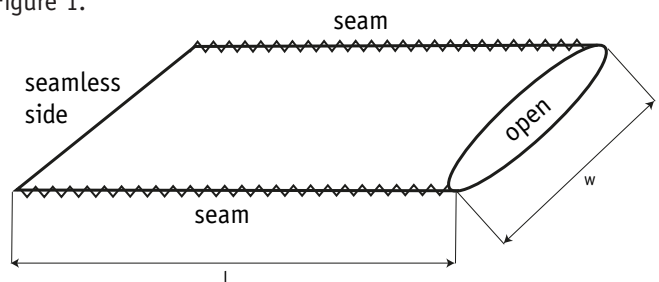

Fig. 1 Empty GSC Secutex® Soft Rock – shape as delivered to site
1.2 Geotextile containers Secutex® Soft Rock are made of folded needle-punched nonwoven geotextiles and connected with a sewing technique (single seam: overlock stitch or double seam: double chain stitch + overlock stitch) on the two long sides. For filling with sand on the construction-site in dry conditions, one short side is left open. The generally supplied geometry of the product Secutex® Soft Rock is shown in Figure 1.
13.1 Secutex® Soft Rock can be filled via the open/seamless side of the container (see Figure 1).